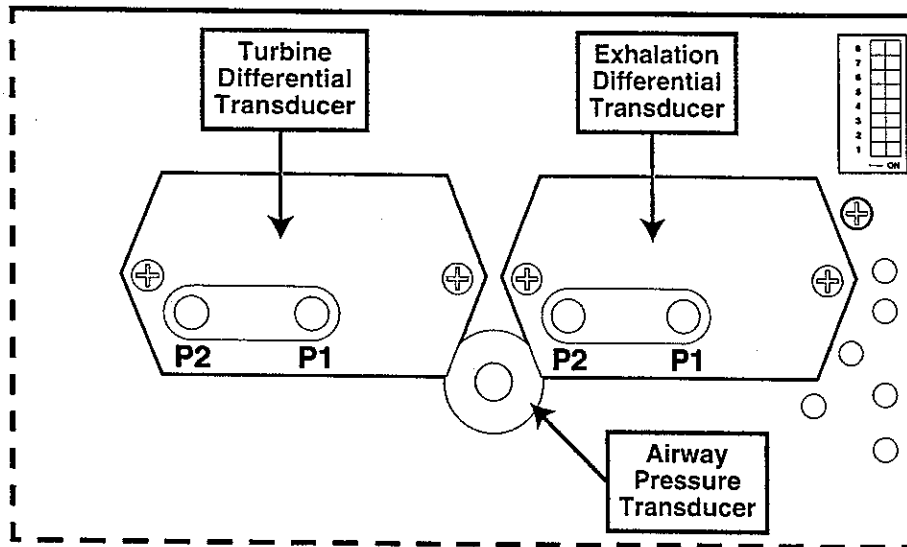

Figure 3-5. Airway Pressure Transducer
Referring to Figure 3-5, disconnect the tubing from the Airway Pressure Transducer.
Referring to Figure 3-5, replace the original tubing to the Airway Pressure Transducer.
Referring to Figure 3-5, remove the two (2) tubes from the Turbine Differential Transducer.
Referring to Figure 3-5, connect an external source of 60 ± 0.6 cmH₂O to the P2 port on the Turbine Differential Transducer.
Referring to Figure 3-5, remove the two (2) tubes from the Exhalation Differential Transducer.